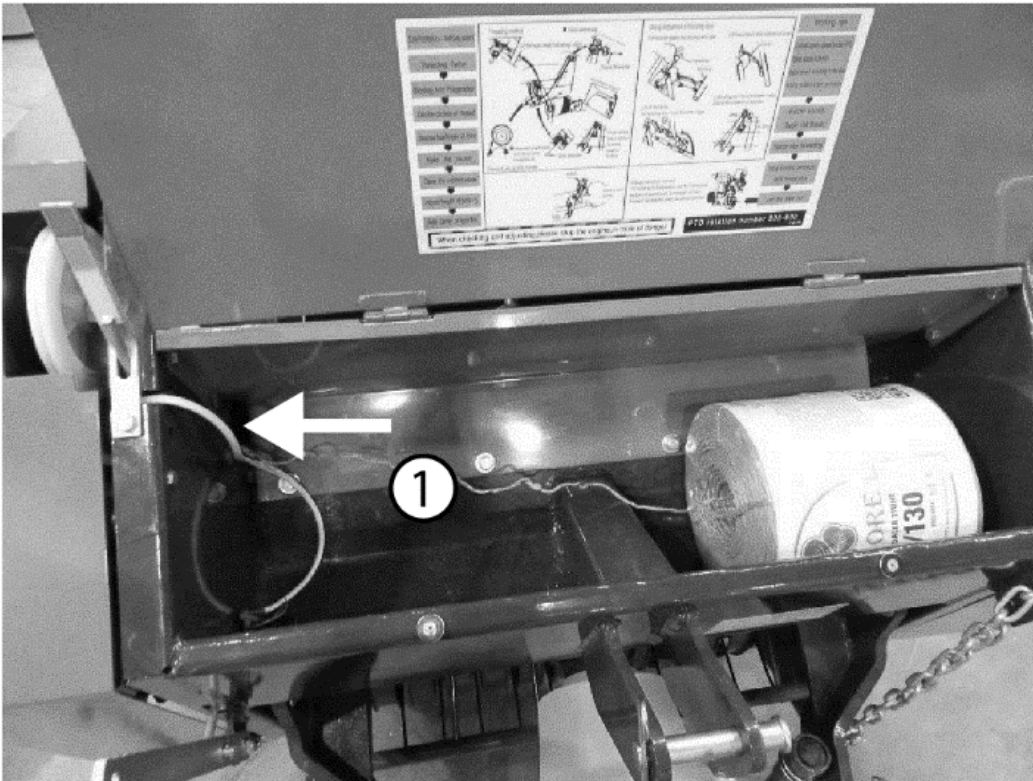
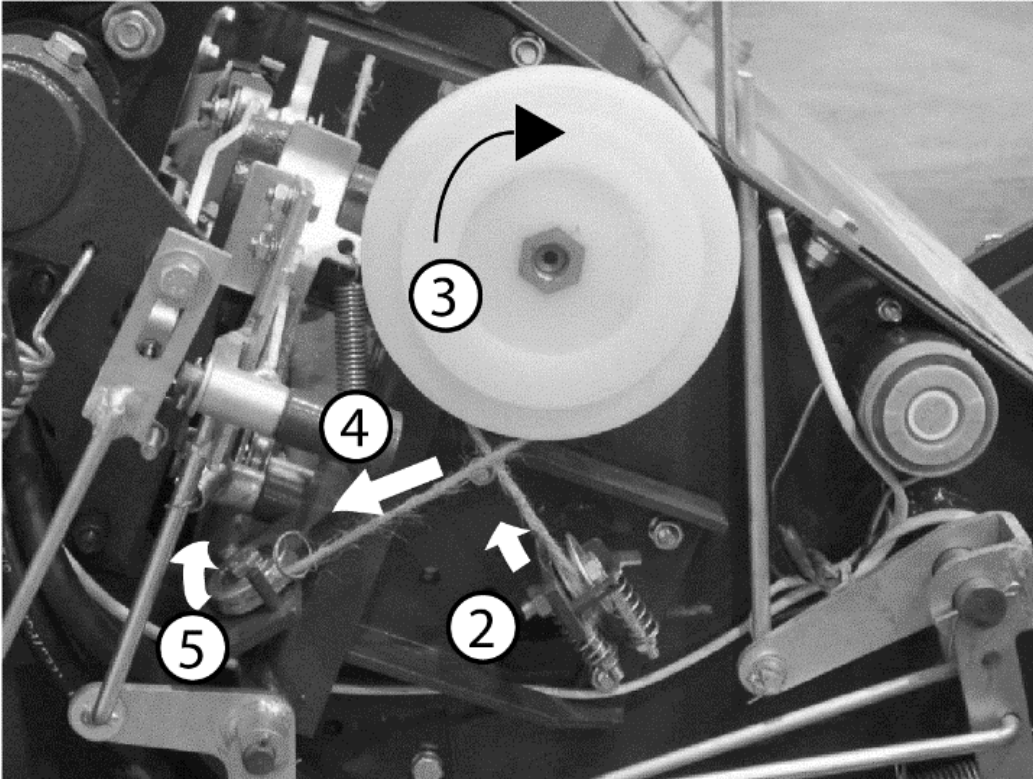
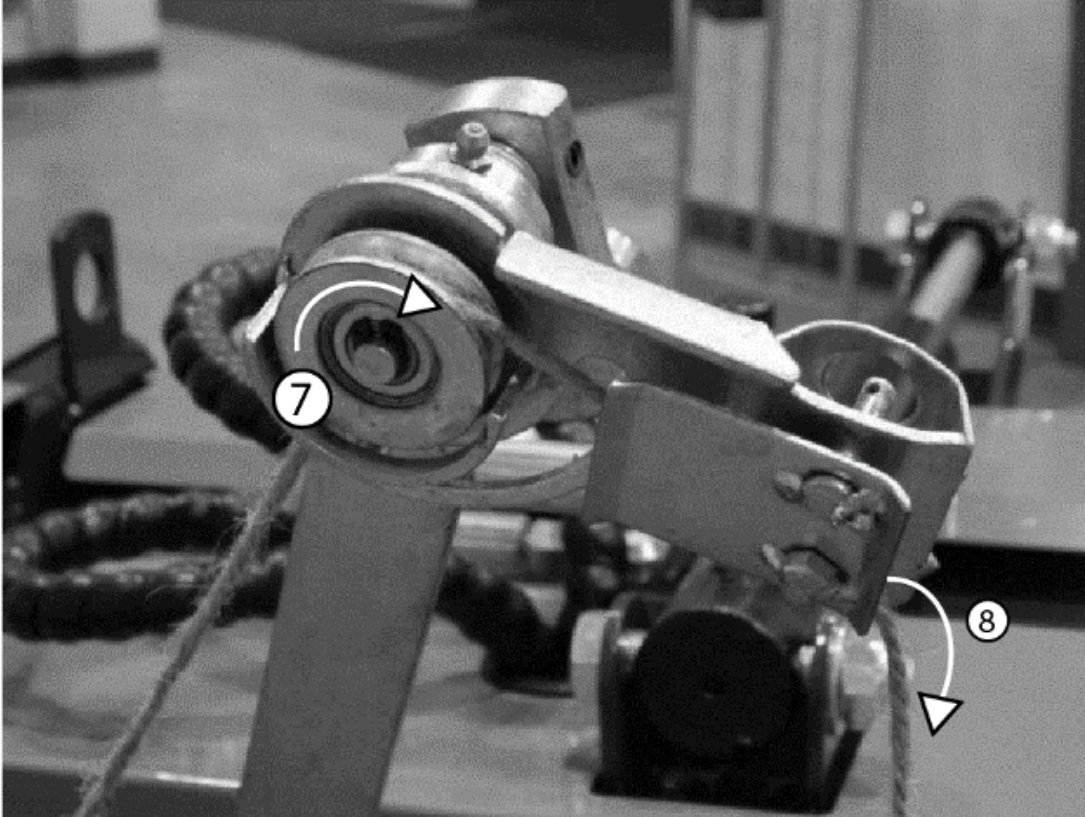

Figure 16
Figure 17 Right side of baler
Figure 19
- c) Thread the twine through the mechanism as shown in Figure 16 - Figure 19 in order from 1-8. The twine storage chamber has a hole on the side to feed the twine through, near the arrow shown in Figure 16. Be sure that the twine is fed through the tensioner shown in Figure 17 next to the label #2, as well as the tensioner at the end of the twine arm shown in Figure 19, near the label #8. As you run the twine through each tensioner and pulley, ensure the tension is not too tight, and that the pulleys spin freely.